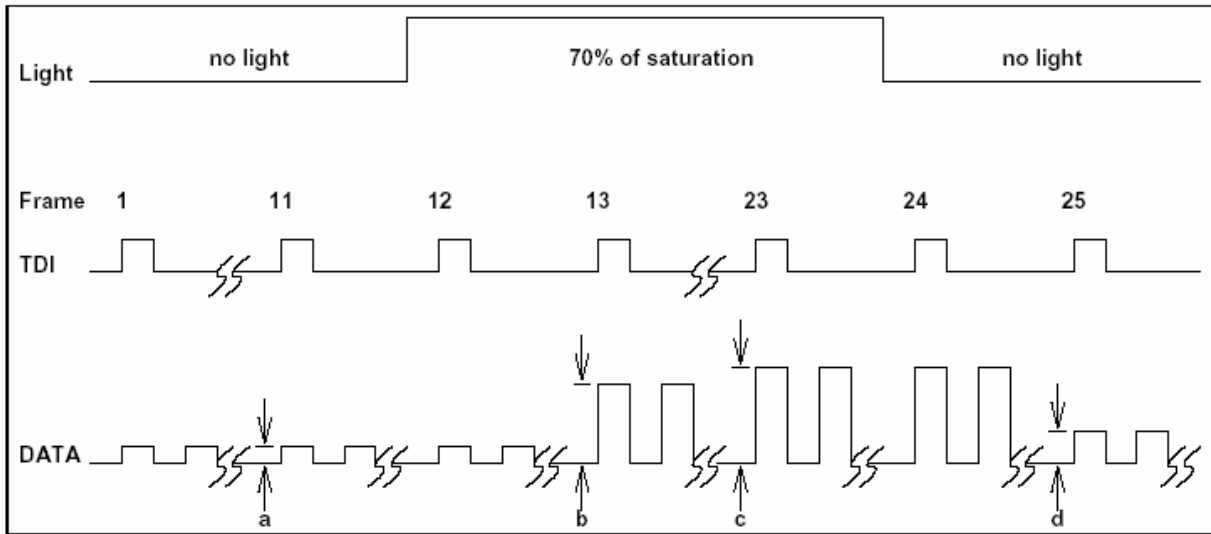

Figure 3: RIL and RIR definitions assuming CLK=10MHz,  $T_{int}=5ms$ , and RAI mode
A diagram of the measurement of the residual image (RIL and RIR) specifications from Table 8 are shown in Figure 3.
**RIL:** The rate of image lag  $\frac{d-a}{c-a}$  shown in Figure 3. This is the ratio of an unilluminated pixel's
**RIR:** The rate of image response  $\frac{b-a}{c-a}$  shown in Figure 3. This is the ratio of an illuminated pixel's response when first illuminated to when it has been illuminated for at least 10 exposures.